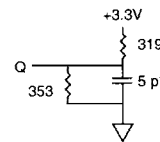

Fig. 2 OUTPUT LOAD EQUIVALENT
- t^{HZCE}, t^{HZOE}, t^{HZBE} and t^{HZWE} are specified with CL = 5pF as in Fig. 2. Transition is measured ±200mV from steady state voltage.